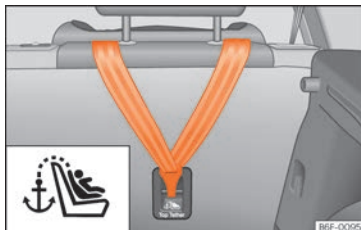

Fig. 42 Rear part of the rear seats: securing rings for the Top Tether strap.
- Slide the strap and secure it properly with the anchorage of the backrest »» Fig. 42.